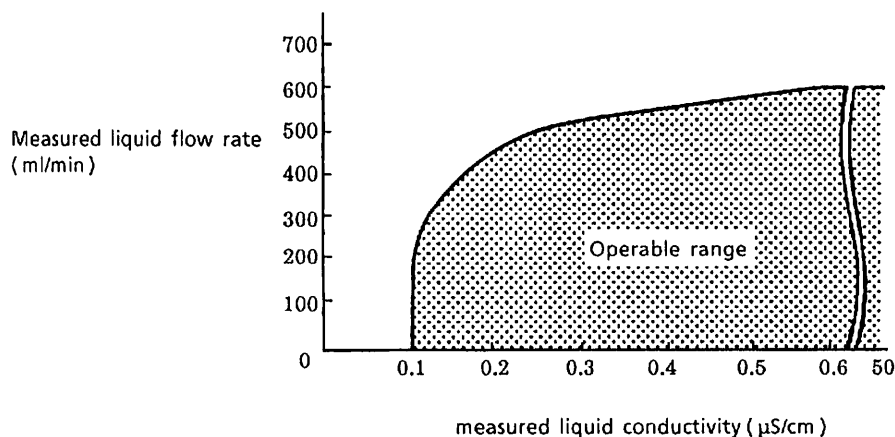

Figure 5.1 Appropriate Flow Rate with Respect to Measured Liquid Conductivity
- When the holder for high-purity water is used, set the relationship between measurement liquid flow rate and conductivity as shown in Figure 5.1.